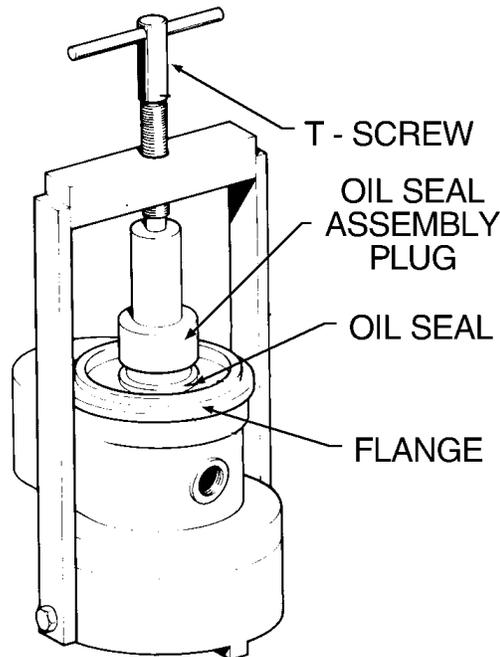

Figure 74-11. Magneto Oil Seal Installation on T-125 Assembly Fixture
- (3) Install oil seal (see Figure 74-11)
- (4) Install Woodruff key by pressing woodruff key into the key slot of the rotor shaft.
- (5) **In the left magnetos only** (i.e. - impulse coupled), assemble impulse coupling: